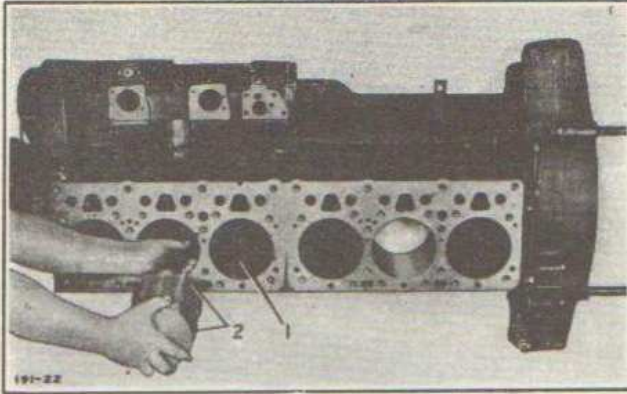

Fig. 51—View Showing Removal of Piston from Cylinder Block
Great care must be exercised when removing pistons from bores (1 in Figure 51) that piston rings (2) are not damaged.